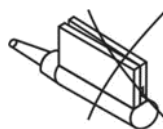

Fig.06
6. Make sure neither the haptic nor the optics is caught in between the shutters (if it happens some gap will be observed between the shutters after closing the cartridge) as shown in Fig.06.If the gap is observed, repeat step no. 3,4 & 5.